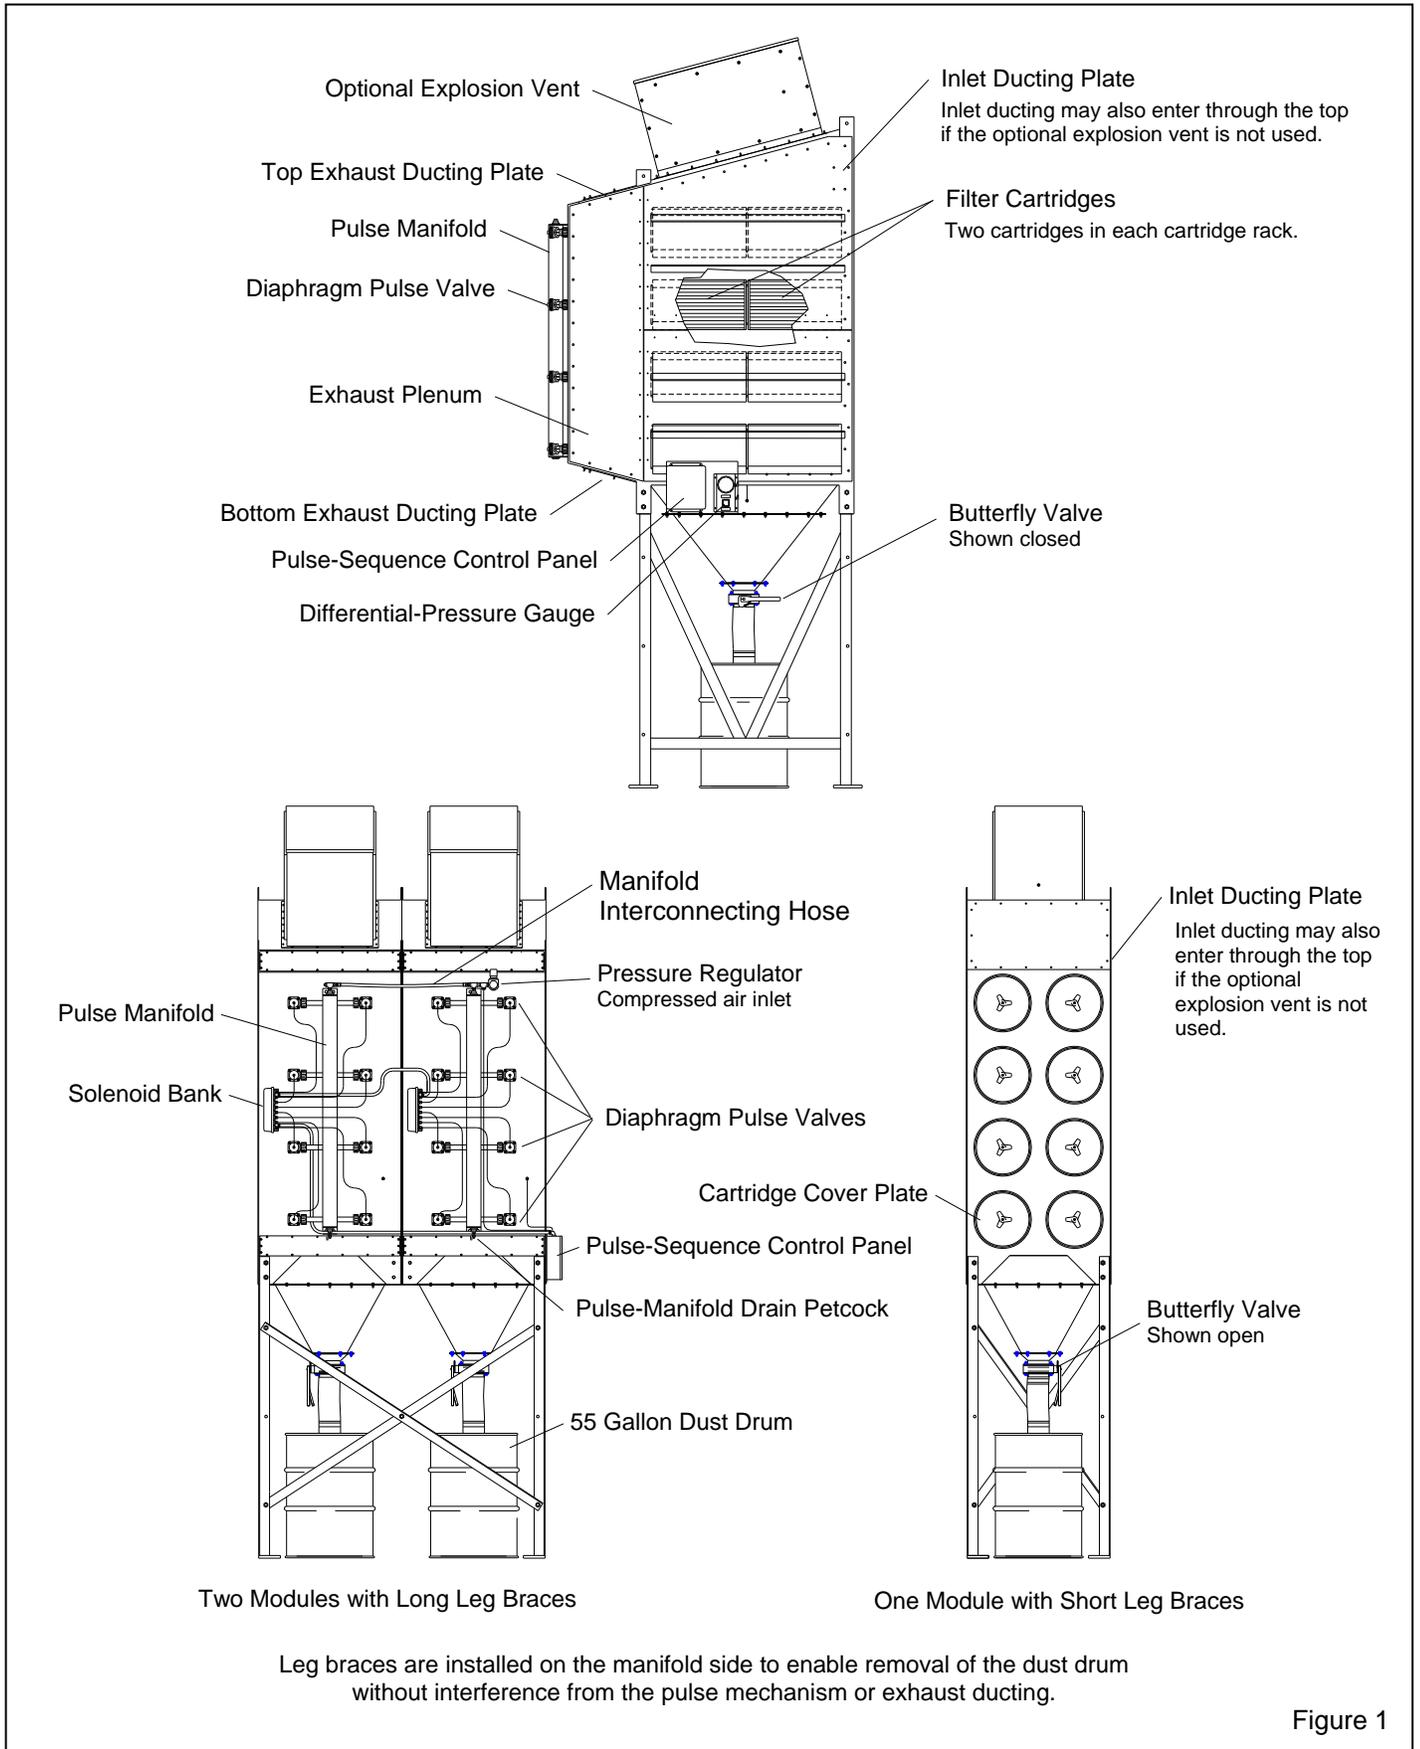

Figure 1
**1.4.3** All illustrations used in this manual show CDF-8 modules. Except where noted, assembly and operation are the same regardless of the body size. A typical general arrangement is shown in Figure 1.